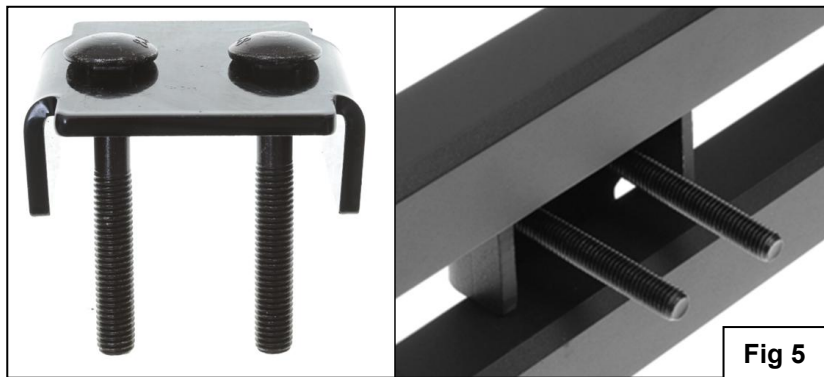
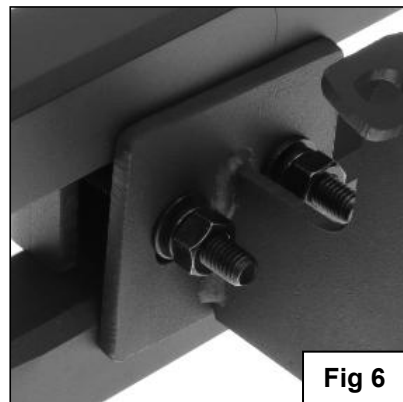

Fig 5
Fig 6
5. Select the Driver Side Bar. Slip (2) M10X1.5-75 Carriage Bolts into each 2-Hole Support Brackets, and insert the 2-Hole support bracket into the Driver Side Bar. **(Fig 5)**. Carefully position the Bar onto the (3) Mounting Brackets. **IMPORTANT:** Do not slide the Bar on the Brackets or damage to the finish may result. Attach the Driver Side Bar to the Mounting Brackets with (2) M10 Hex Nuts, (2) M10 lock washers and (2) M10 flat washers, **(Fig 6)**. Do not tighten hardware.